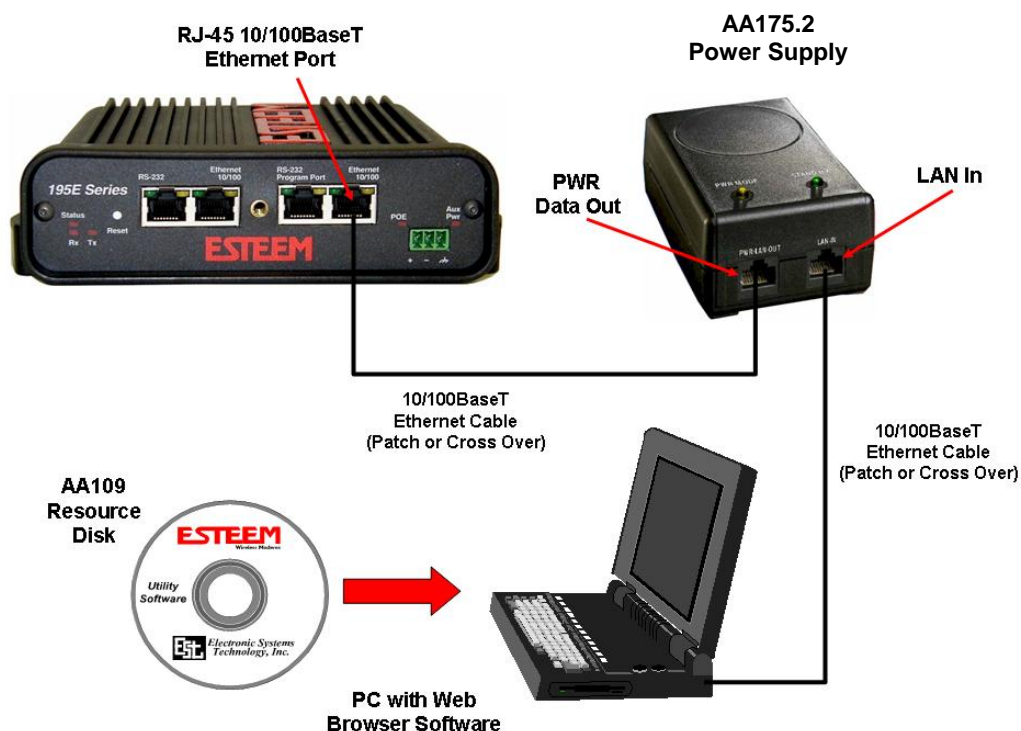

Figure 4: Hardware Configuration Diagram
2. Assemble the 195Ea hardware as shown in Figure 4.